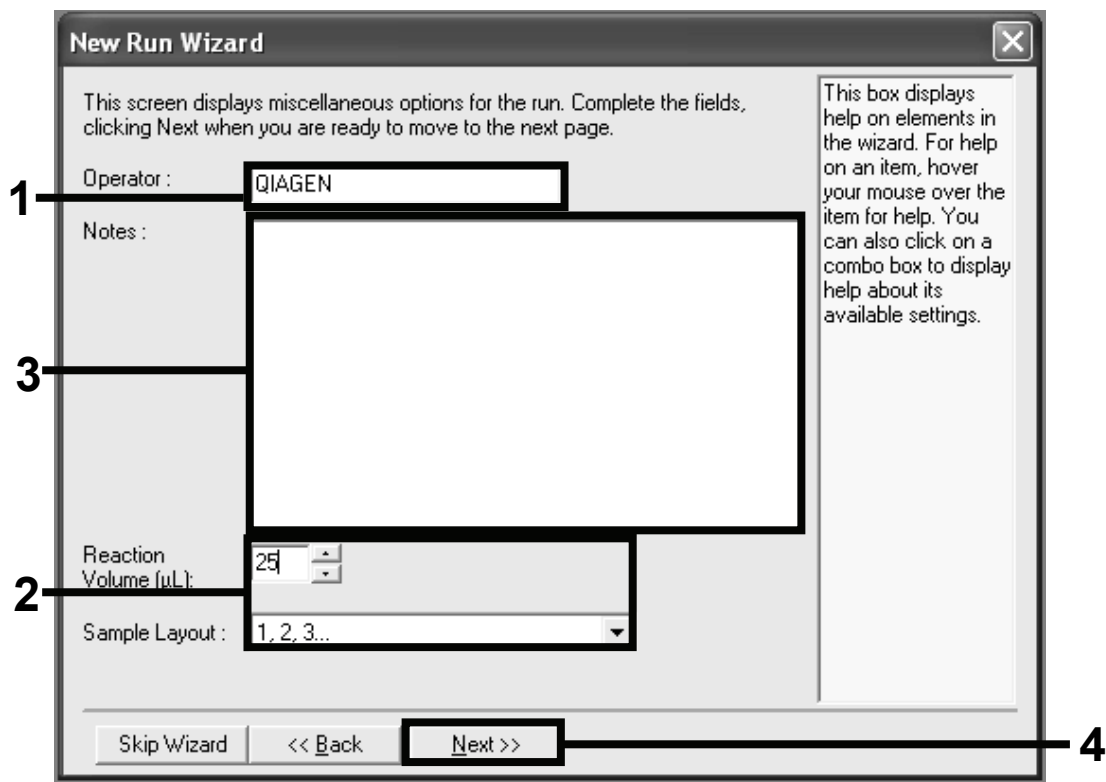

Figure 2. Setting the general assay parameters.
11. Enter the name of the operator, enter *25 µl* for the reaction volume, and add any additional notes. Click “Next” (Figure 2).